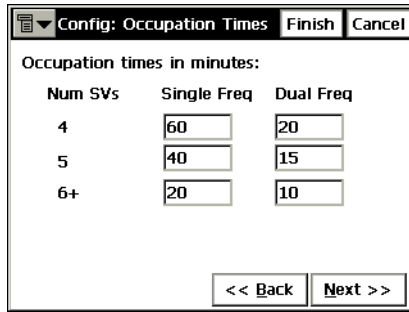

Figure 3-42. Config: Occupation Times
3. Set the *Occupation Times* parameters, the times required for ambiguity resolution in the common operating environment (Figure 3-42 on page 3-30). These are used during automatic mode of a PP Static Survey and depend upon the number of satellites available and the number of frequencies being used.